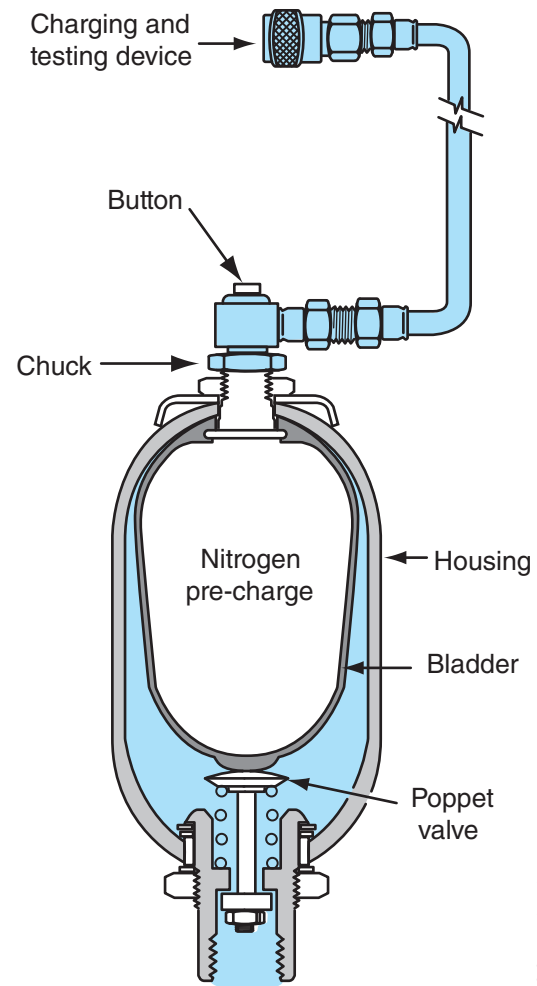

Figure 8-23 A typical bladder-type accumulator along with the connectors and hardware used to charge it.
- Before attempting to remove the protective guard from the top of the accumulator, which protects the gas valve (see **Figure 8-23**), clean the surrounding area with compressed air.